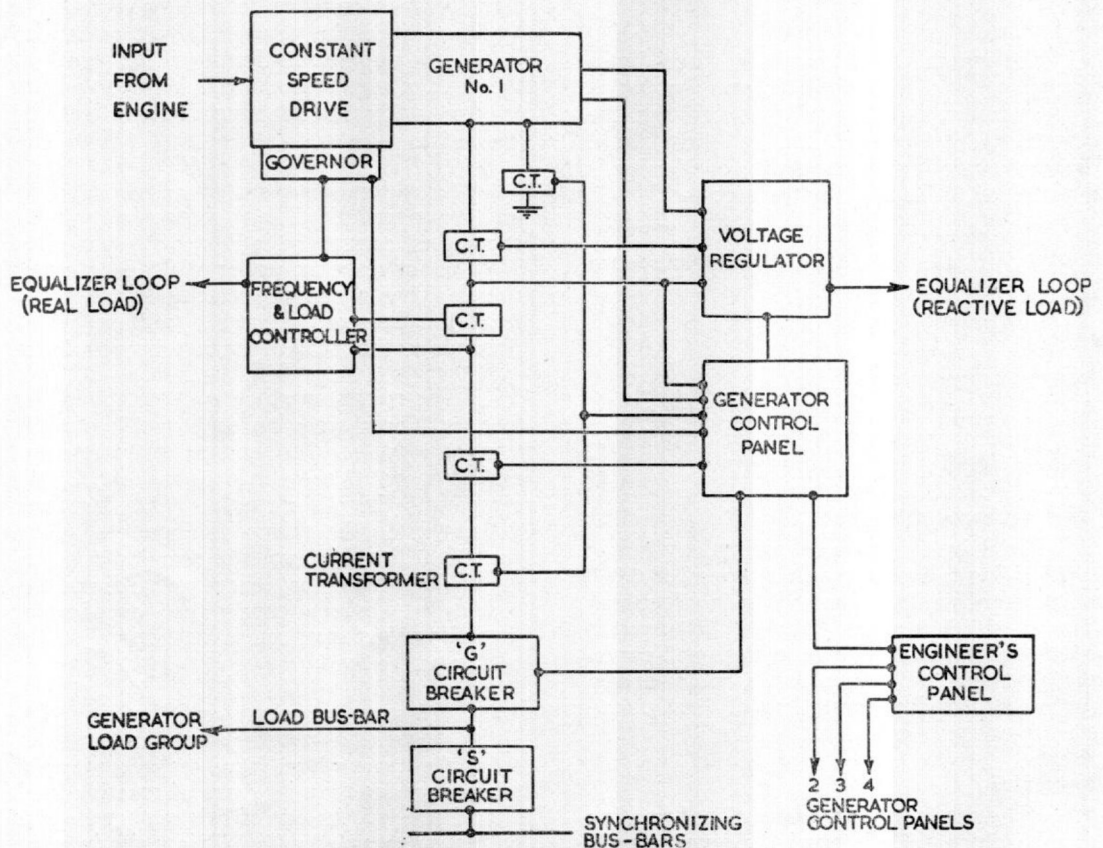

Fig. 2. Block diagram of equipment associated with one generator
8. Fig. 2 is a simple block diagram of the equipment associated with one generator. Table 1 details these components.